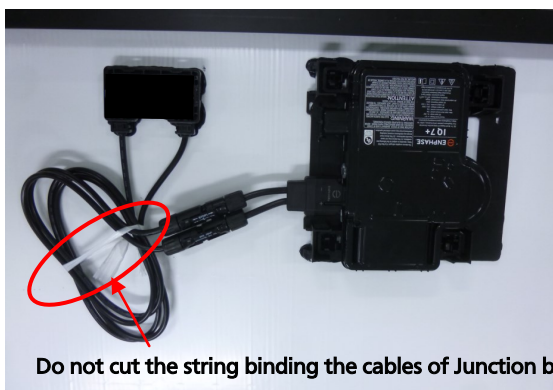

Figure 4. The string binding the cables of Junction box
- To avoid damage to the back sheet by the connector, Do not cut the string binding the cables of junction box. See Figure 4.